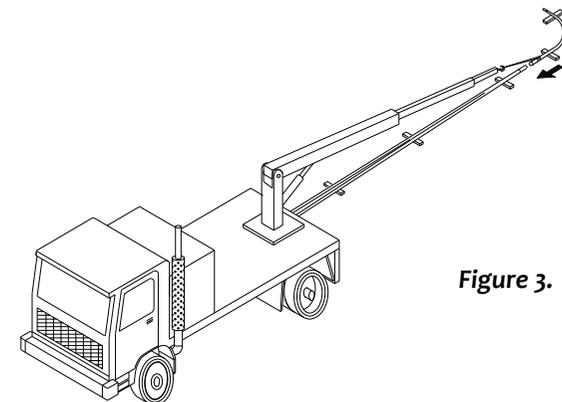

Figure 3.
- A hiab truck can be used and the strop can be pulled by the lifting arm (**Figure 3**); or